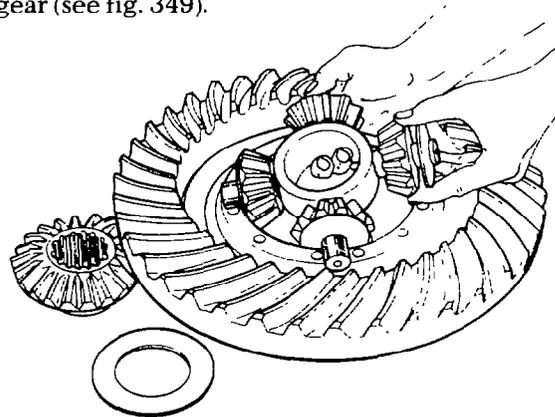

Fig. 349 — Removing Differential Internal Components
- h. Cut and remove the locking wire, then remove the bolts (item 11) holding the assembly together; remove the plain differential case (item 12) from the assembly.
- i. Remove the side gear (item 14) and thrust washer (item 13) from the spider (item 17), then remove the spider together with the pinion gears (item 16) and thrust washers (item 15); remove the remaining side gear (see fig. 349).